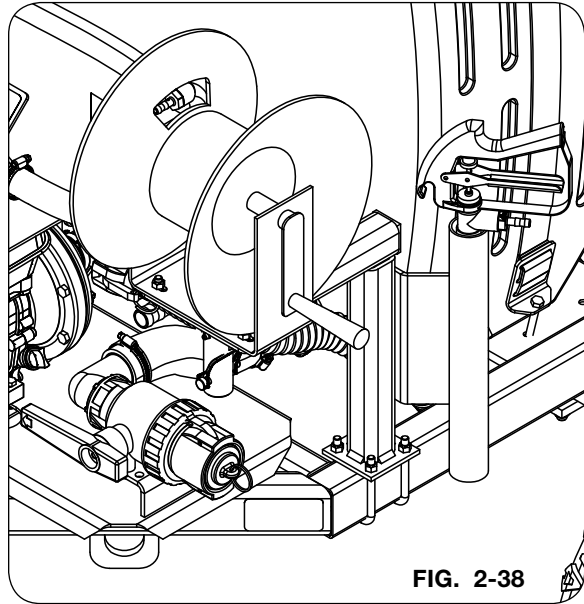

FIG. 2-38
8. Mount entire assembly to the front, left-hand portion of ATV Sprayer using two 3/8"-16UNC U-bolts (900076) and four 3/8"-16UNC lock nuts (9928). (FIG. 2-38)